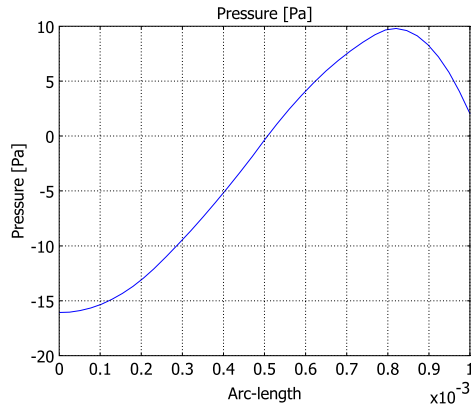
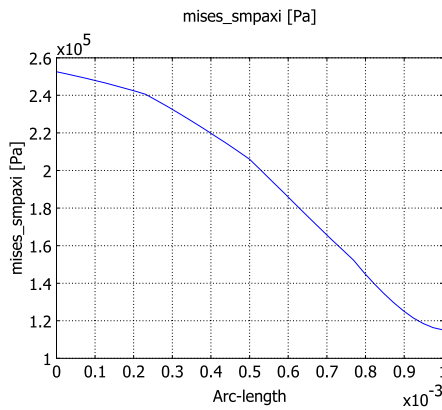

Figure 2-21: Acoustic pressure at the air-solid interface.
Figure 2-22: von Mises Stress along the air-solid interface.
Figure 2-21 shows the pressure distribution along the air-solid interface. The acoustic pressure load is small in comparison to the electrical load, which is plotted in Figure 2-22 on page 63.
To create Figure 2-21 and Figure 2-22 do the following:
- 5 To plot von Mises stress along the same boundary (Figure 2-22), enter $mises_smpaxi$ in the **Expression** edit field, and then click **OK**.